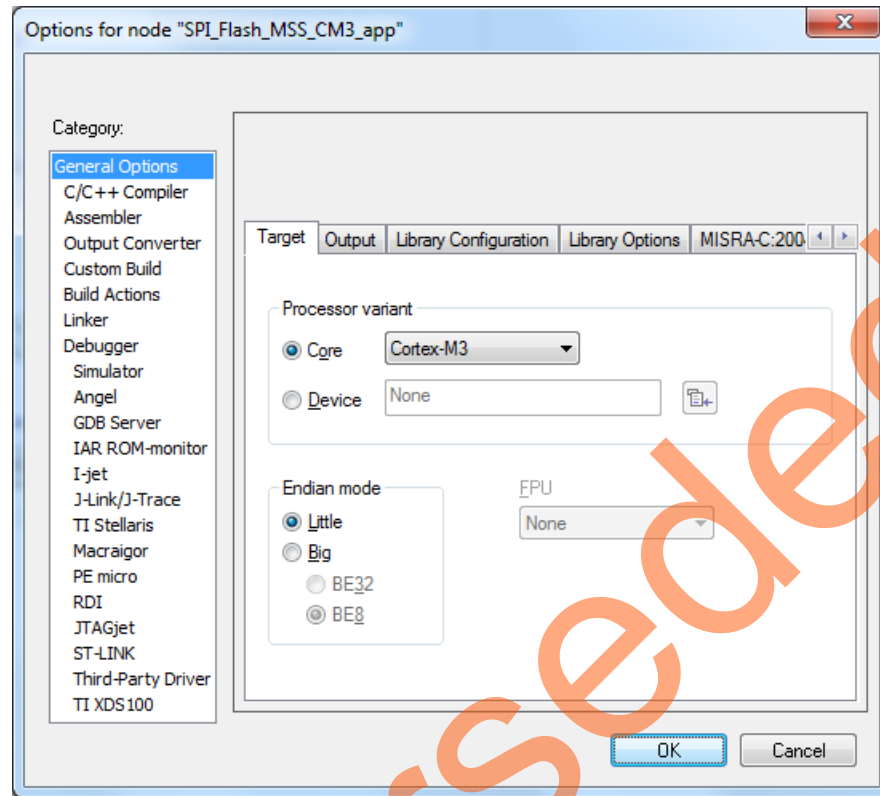

Figure 28 • IAR Node Options
13. The **Options for node SPI_Flash_MSS_CM3_app** window is displayed as shown in Figure 28.